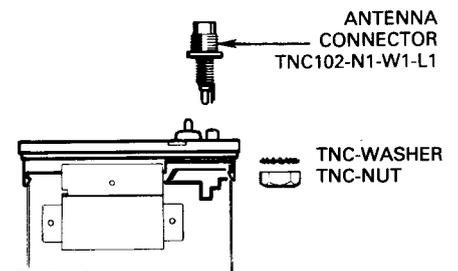
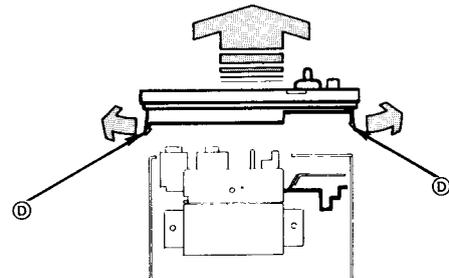

Fig. 6-2-2
Fig. 6-2-3
- Remove screw (A).
- Remove the TNC-NUT and the TNC-WASHER. See Fig. 6-2-2.
- Remove the ANTENNA CONNECTOR by desoldering point (B) on the components side and point (C) on the foil side of the PLL UNIT.
- Remove the TOP PANEL by slightly prying outward on both sides points (D) of the TOP PANEL. See Fig. 6-2-3. **DO NOT** break the tabs.